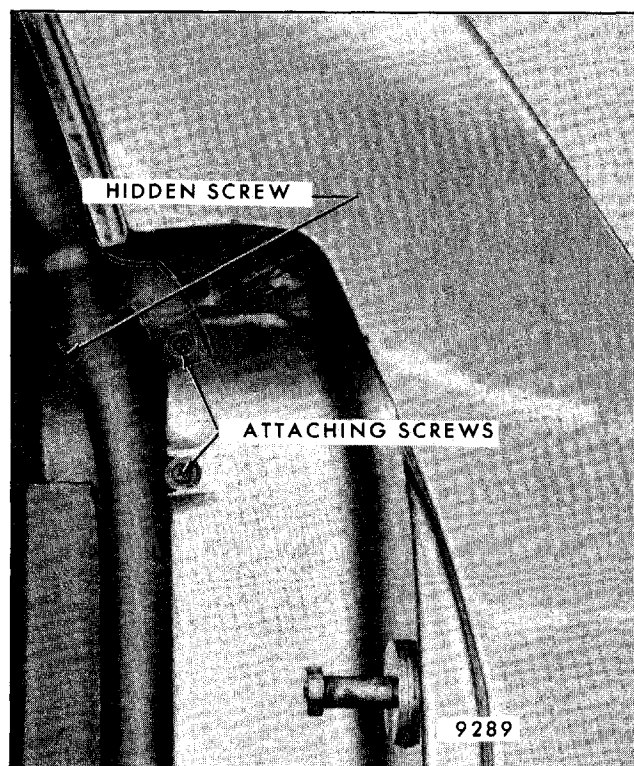

Fig. 7-124 - Tailgate Weatherstrip Screw Retained
3. Remove weatherstrip attaching screws at belt from right and left sides, Figure 7-124.